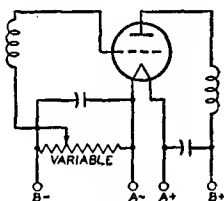

Fig. 84
**Grid-bias variation** for the rf and if amplifier stages is a convenient and frequently used method for controlling receiver volume. The variable voltage supplied to the grid may be obtained: (1) from a variable cathode resistor as shown in Figs. 84 and 85; (2) from a